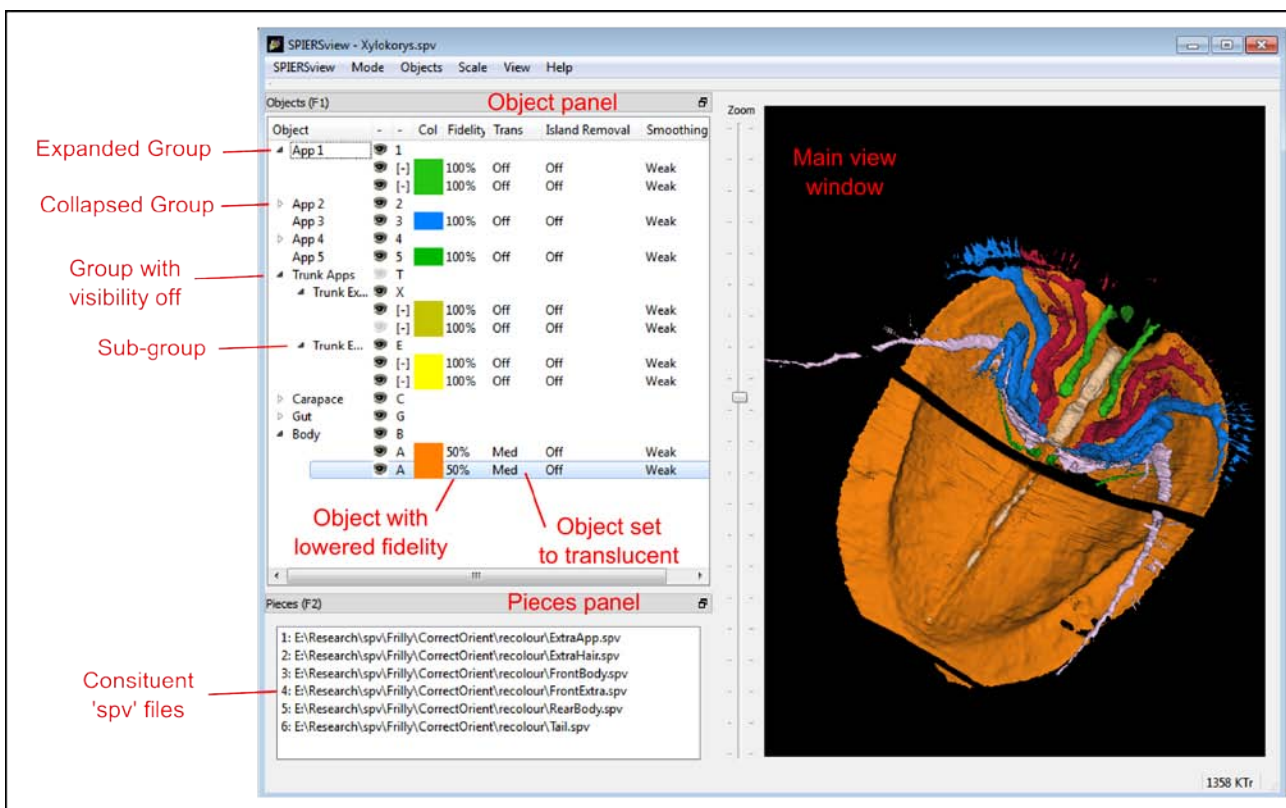

Figure 2. Objects and Pieces panels.
Objects can be combined into groups; groups can also exist as subgroups within other groups (see Fig. 2), enabling the user to build up a hierarchy of objects to describe an anatomy. For instance, an arthropod model might include a group called 'appendages' – this in turn might include a subgroup called 'cephalic' appendages, which might in turn include a 'mandibles' group, consisting of a left and right mandible. Object grouping not only provides a convenient way to explain relationships, but also allows visibility to be controlled for sets of objects – in the above example for instance a key could be assigned to the appendages group, allowing the entire appendage set to be quickly hidden or shown.
Groups are indicated in the panel in a standard way (Fig. 2); they can be expanded or collapsed to show their contents. Groups only have two properties; their shortcut key, and their visibility.
Turning visibility off for a group does not alter the individual visibility settings of contained objects (or groups), but overrides them so they are all hidden. In Figure 2 for instance, all objects in the 'Trunk Apps' group are currently invisible (whatever their individual visibility setting), as this group is set to invisible. Once visibility is turned on again for the parent group, the individual visibility settings of its contained objects (or groups) are used again.
Objects listed in the object panel have seven properties detailed in columns to the right of the name (see Fig. 2; not all columns are visible at default panel size). The name (1st column), visibility (2nd column), shortcut key (3rd column) and display colour (4th column) are all modified simply by double-clicking. Note that display colour has no effect for VAXML/PLY datasets where the imported object has surface colour. The properties in the right hand four columns (Fidelity, Transparency, Island Reduction and Smoothing) are set using commands on the object menu. Of these, only transparency is available in *Finalised/VAXML* mode.
SPIERSview can combine two or more '.spv' format files (both compact and presurfaces varieties) into a single multi-piece model; this facility is useful for combining parts of an object initially reconstructed as multiple SPIERSedit datasets (e.g. part and counterpart of a fossil). Each '.spv' file incorporated is known as a *piece*. The *Pieces panel* (see Fig. 2) shows all the pieces making up the currently open file – if no extra pieces have been imported, there will be only one such piece.